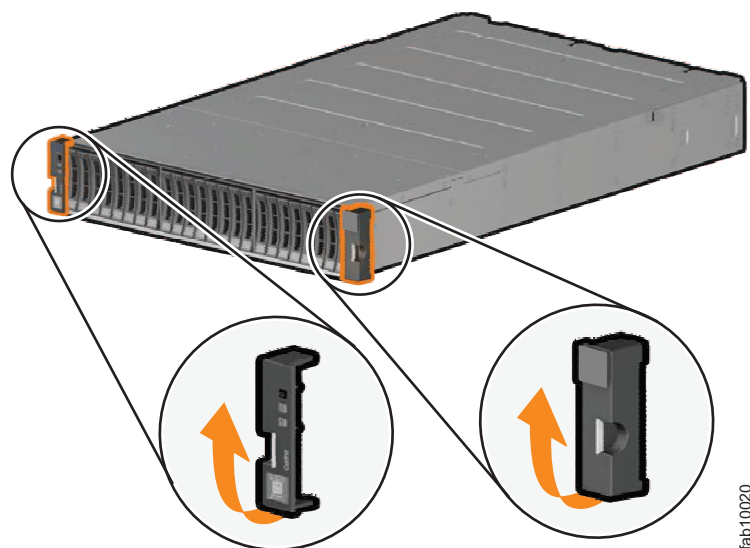

Figure 18. Removing enclosure end caps
1. On either side of the drive assemblies, remove the enclosure end caps by grasping the handle and pulling the bottom of the end cap free, then clearing the tab on the top of the enclosure. (See Figure 18.)